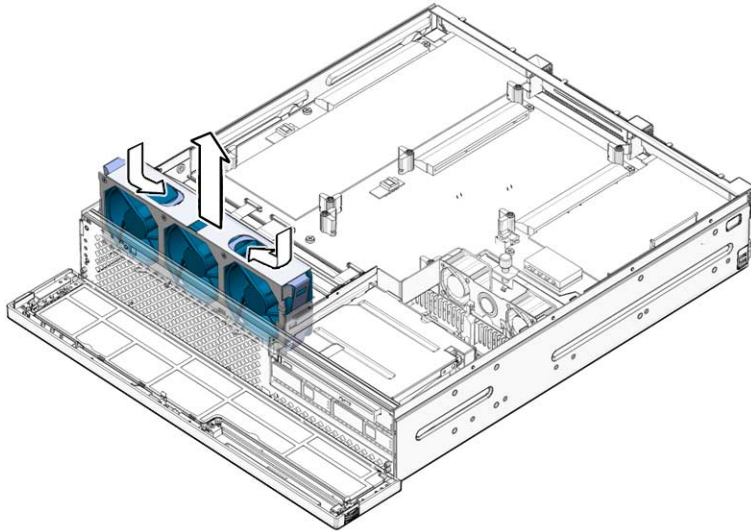

FIGURE 3-31 Lifting the System Fan Assembly From the Chassis
6. **Insert your forefinger and thumb into the holes at the top of the fan assembly, squeeze your fingers together, and lift the fan assembly from the chassis (FIGURE 3-31).**